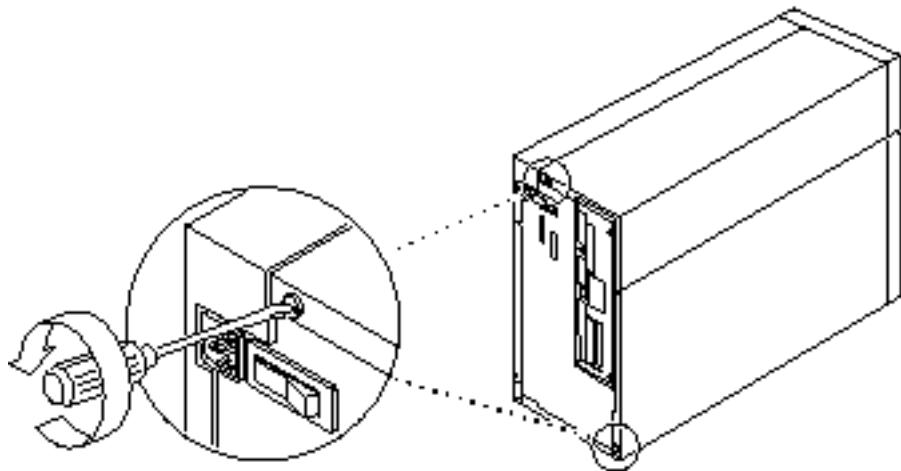

Figure 2-27 Installing the Left Outer Panel
7. Tighten the two Phillips-head captive screws at the rear of the Netra 150 server (Figure 2-27).